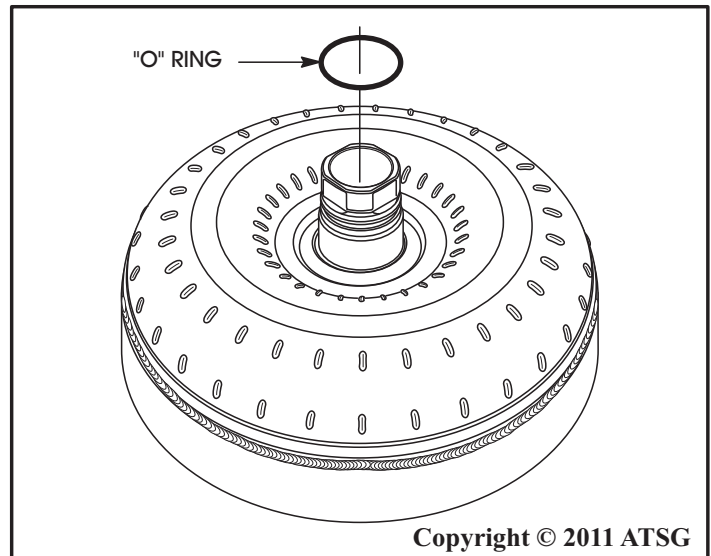

Figure 32
4. Remove and discard the "O" ring from the converter hub, as shown in Figure 32.